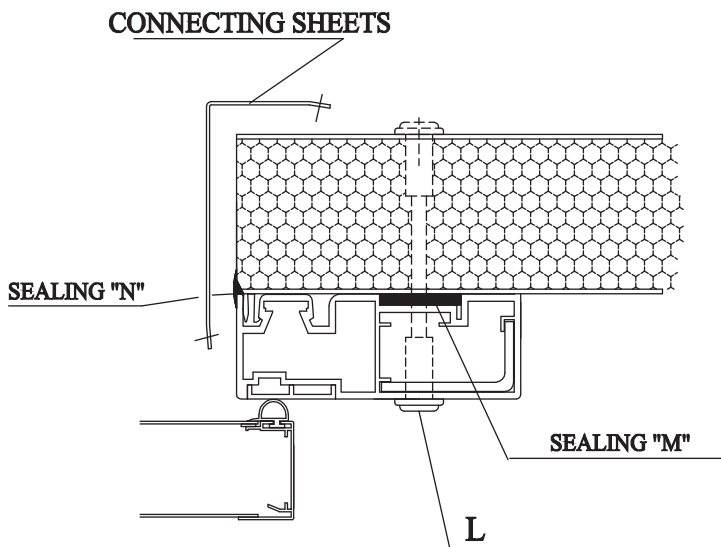

Figure 3
- 6 - SECURE FRAME TO PANEL WITH THE RODS (A)
- 7 - SEAL PERIMETER BETWEEN FRAME AND PANEL WITH POLYURETHANE FOAM (FIG. 3)